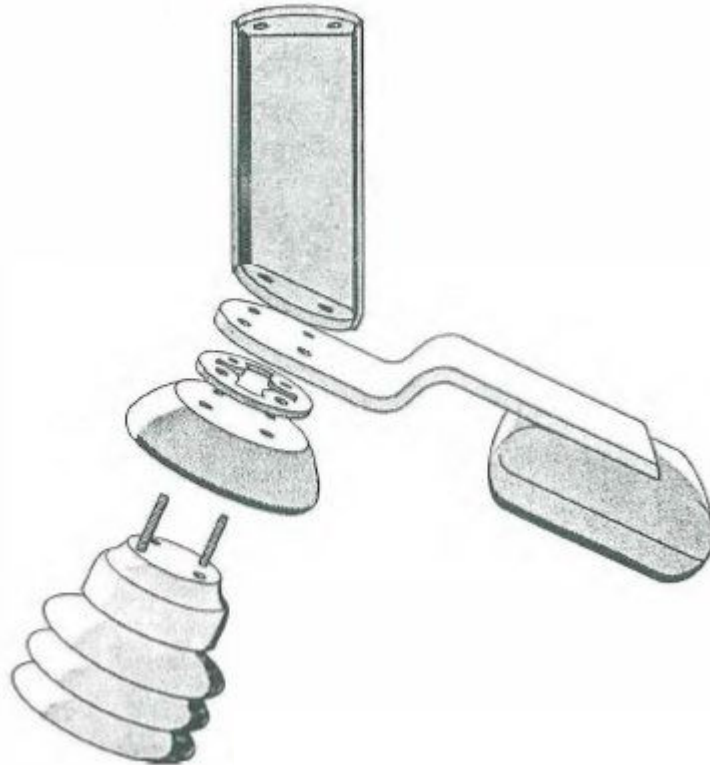

Figure 3: Corona Shield/Spacers/Jaw Adapter
- 1.6. Mount the jaw adaptors. Two 1/2" spacers are used between the corona shield and the adaptor. If a grounding switch jaw is to be mounted, use only one spacer (placed between the shield and the grounding switch jaw bracket), and discard the extra spacer. (See **Figure 3**.)